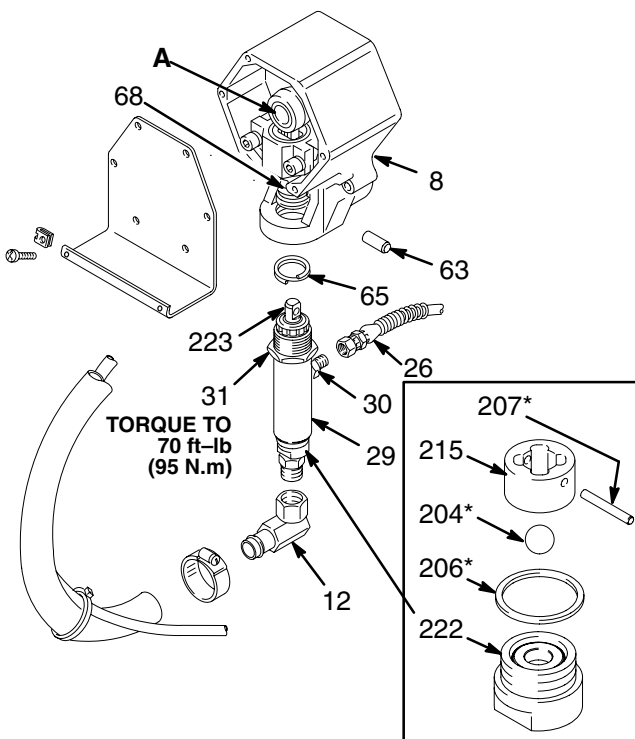

Fig 11
Be sure the retaining spring (65) is completely in the connecting rod groove to prevent the pin (63) from working loose due to vibration. See Fig 11.
Removing the Pump. See Fig 11.
NOTE: Refer to Fig 11 for this procedure.
1. Remove and disassemble the intake valve (222). If no further service is needed, reassemble the valve, using a new gasket (206*). Torque to 80 ft-lb (107 N.m). See Fig 11.
2. Remove the packing nut (221) and plug (201).
3. Tap the piston rod (223) down with a plastic mallet. Pull the rod out the bottom of the cylinder (216).
4. Remove the packings and glands from the throat of the cylinder (216).
5. Clamp the flats of the piston rod (223) in a vise. Unscrew the retaining nut (214). Unscrew the piston valve (224) from the rod. Remove all parts from the piston.
Reinstalling the Pump. See Fig 11.